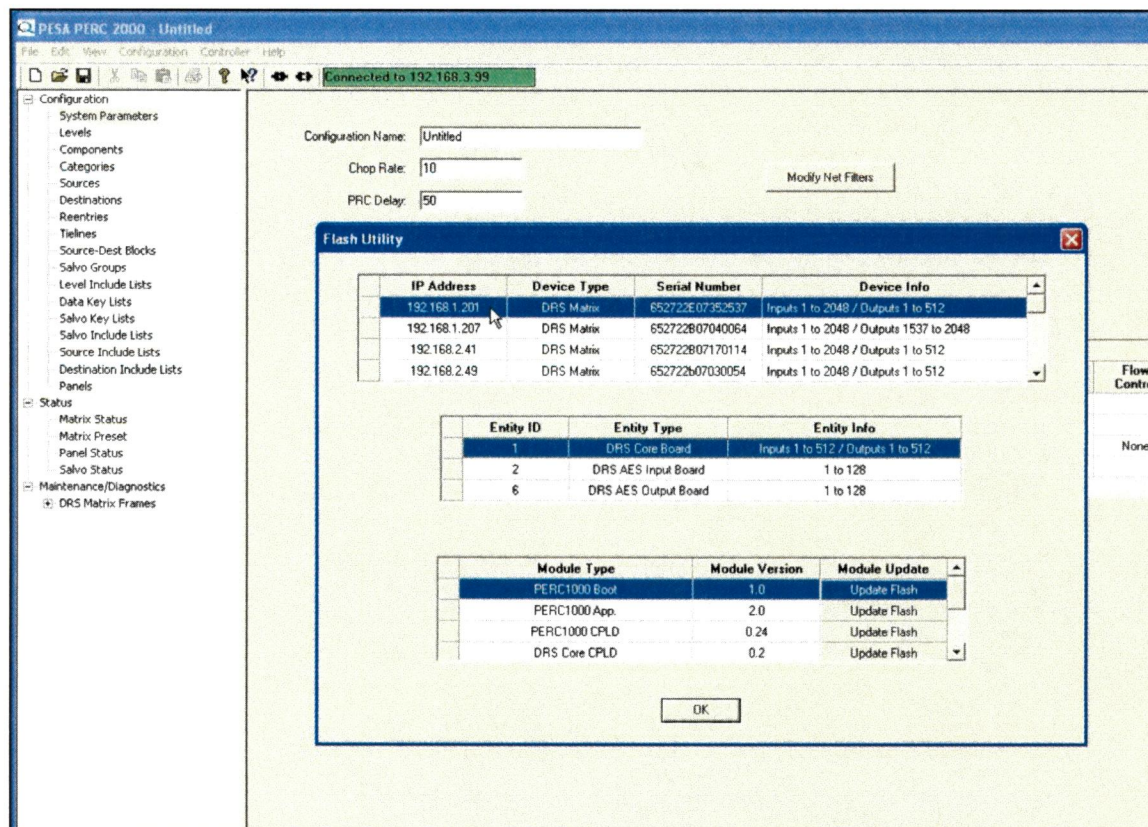

Figure 37. Device Selection Window
4. This brings up the Flash Utility window as shown in Figure 37. All devices in the system that are under control of the GUI and assigned an IP address are displayed in the top box of the window. Locate the DRS Matrix you wish to update by the IP address of the **ACTIVE** frame controller in the DXE, it will be listed in the Device Type column as DRS Matrix, and click on the entry. Do not use the IP address of the standby frame controller for this procedure. The entry is highlighted as an indication it is the matrix chosen for flash update.